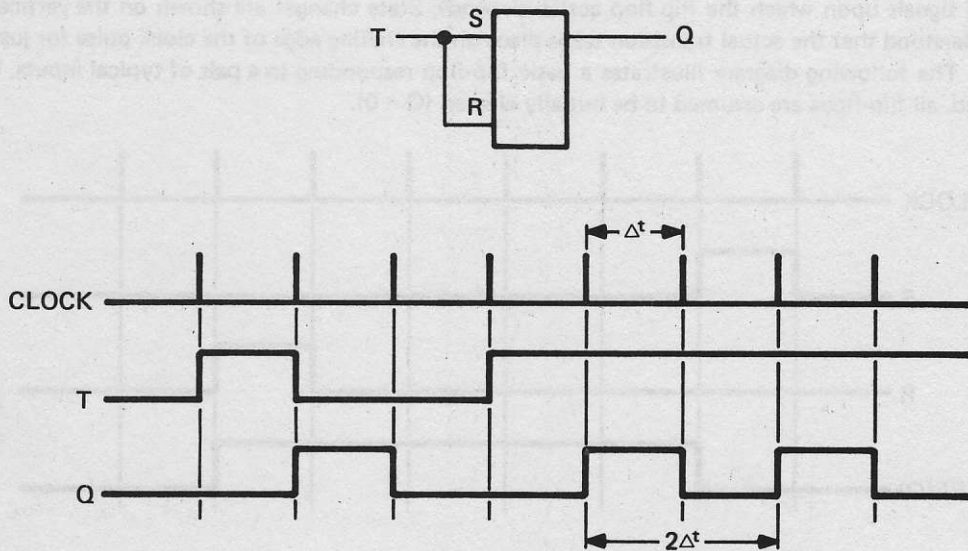

Figure 5.7 *Toggle Flip-Flop: Typical Programming Symbol and Timing Diagram*
6. *Toggle Flip-Flop* - As another special case, consider a flip-flop driven by a single logic signal ( $S = R = T$ ). The new state ( $Q_{N+1}$ ) will either remain unchanged ( $T = 0$ ) or will be complemented ( $T = 1$ ). The state will change on each clock pulse as long as the input remains high. This configuration is referred to as a Toggle (or simply T) Flip-Flop. See Figure 5.7.